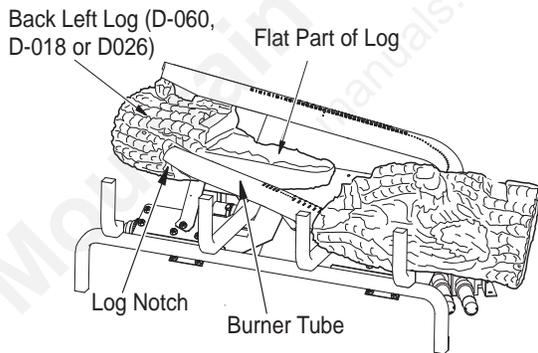

Figure 25 - Installing Back Left Log
2. Find the back left log (LMF24GTA/B or LMF24MOA/B models: D-060, LMF30GTA/B or LMF30MOA/B models: D-018, LMF36GTA/B or LMF36MOA/B models: D-026). See **Figures 25, 25A,**
and 25B. Figure 25A shows how the log must fit against the end of the burner. Figure 25B shows how the notch in log fits against the vertical portion of the burner tube. Place this log on the base assembly by inserting it from the left side as shown in Figure 25. You will need to twist the log slightly to get it to fit against the burners properly. It will rest even with the back edge of the pan.